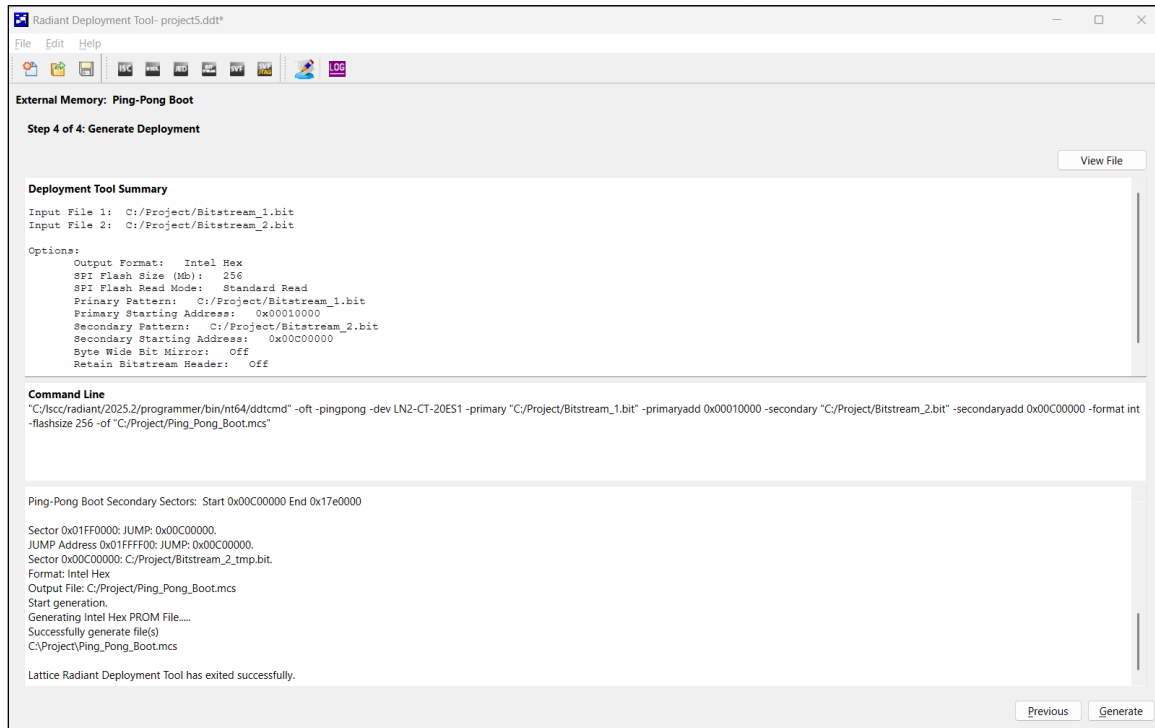

Figure 7.12. Generate Deployment Window
Step 4 of 4: Generate Deployment window (Figure 7.12).